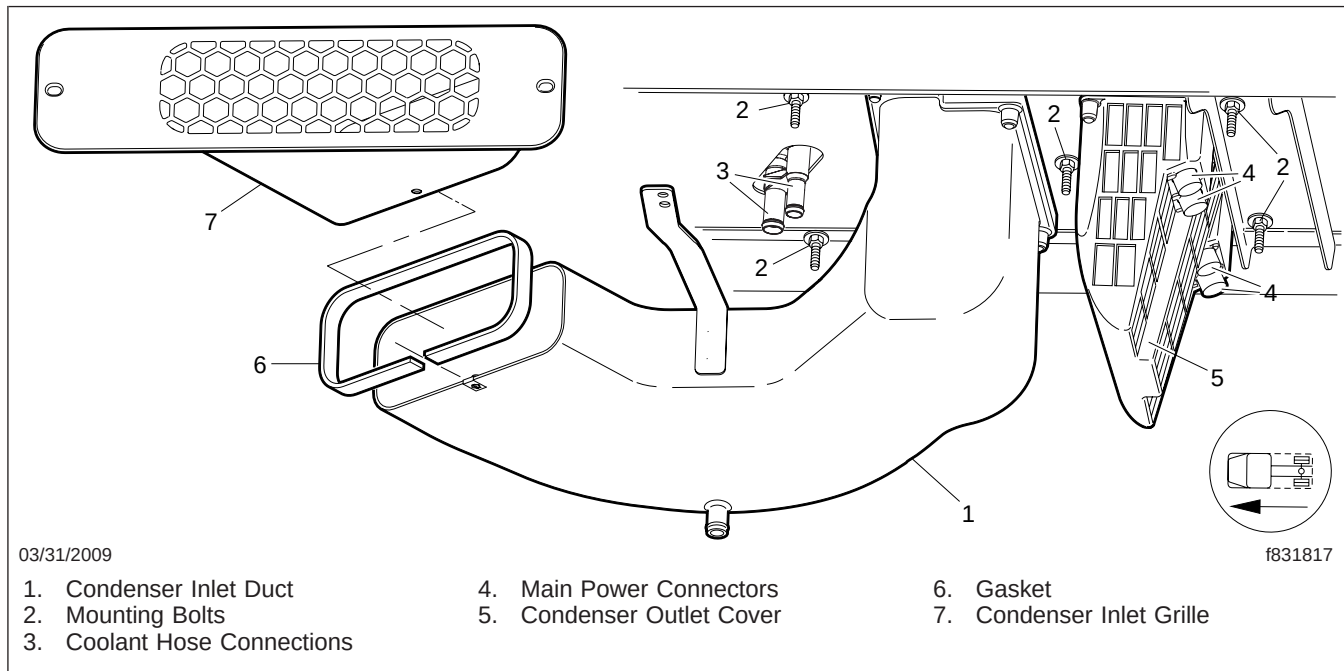

Fig. 2, Under Cab Components
14. Disconnect the coolant lines from the heater core. See Fig. 2.